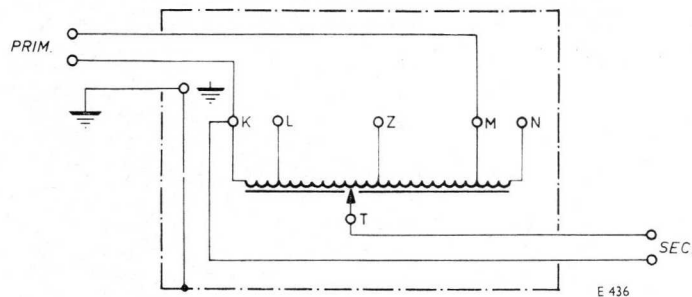

Fig. 6
- Connect the wires in accordance with the diagram below (Fig. 6). (Solder or screw.)